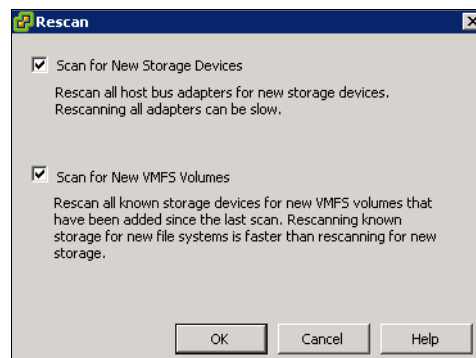

Figure 5-47 Rescan devices
3. Select **Rescan All** and click **OK** (Figure 5-47) to scan for new storage devices.